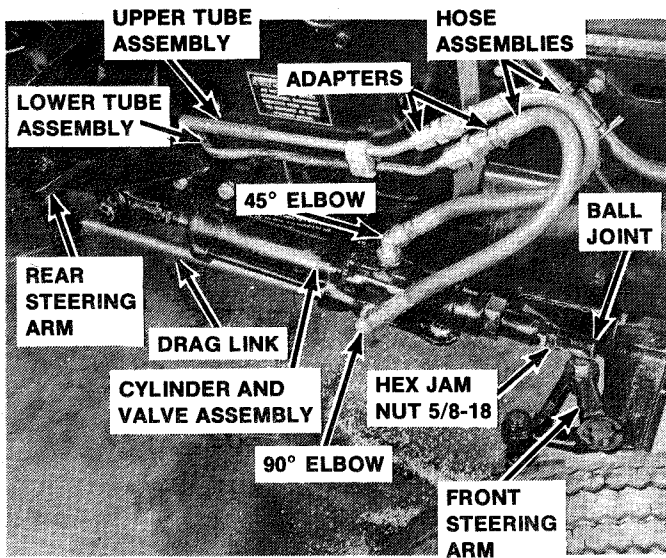

Figure 7
11. Install hex jam nut 5/8—18 onto new ball joint. Turn ball joint into valve end of power steering cylinder assembly 5/8 inches or more. See figures 7 and 9.
12. Secure ball joint into front steering arm. See figure 7.
16. Attach one hose assembly from the upper tube to the top connection of the power steering valve with 45° elbow and adapter. Attach the remaining hose assembly from the lower tube to the side connection of the power steering valve with 90° elbow and adapter. See figure 7.